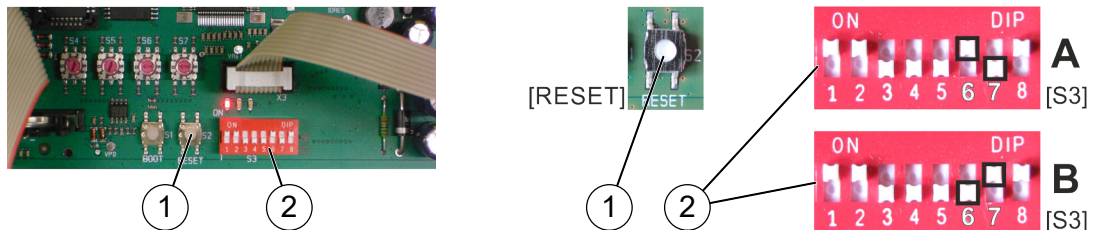

Fig. 55: [Reset] button and DIP switch "S3"
4. ➤ On the CPU3 control card on DIP switch "S3" (Fig. 55/2), set slide buttons "6" and "7" according to the switch type (transparent/gray):
5. ➤ Restart the system by pressing the [Reset] button (Fig. 55/1).